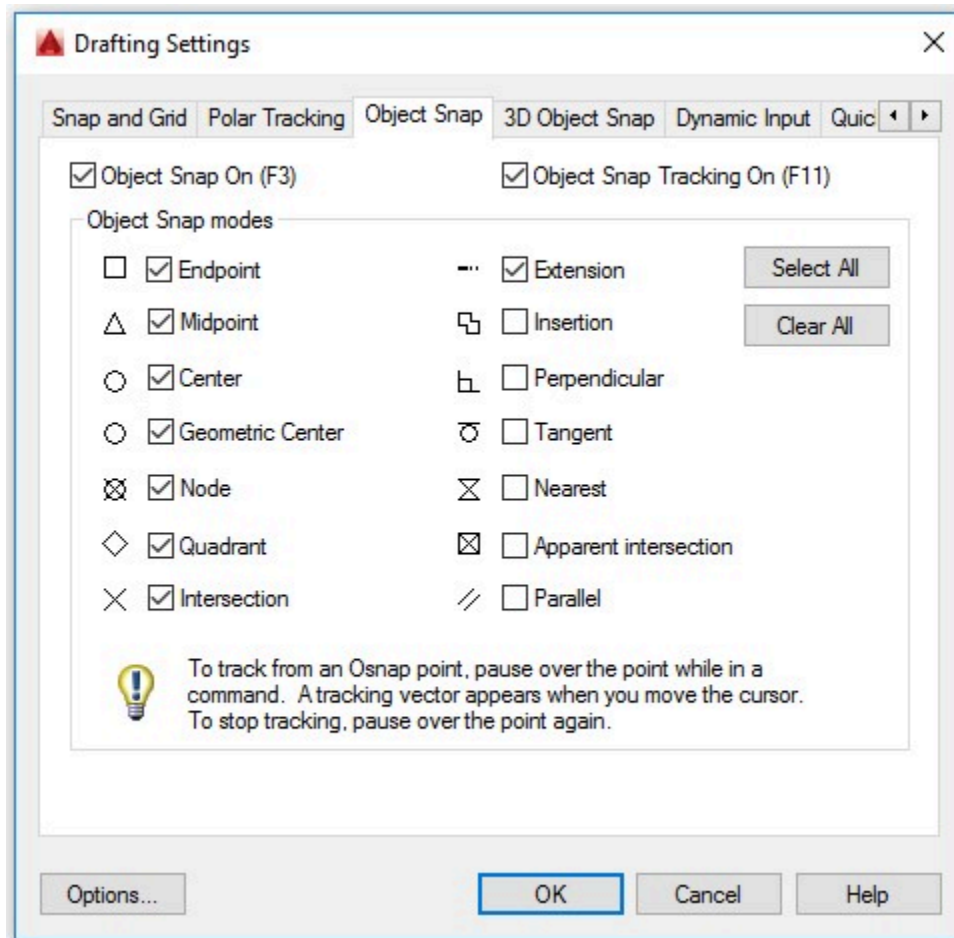

Figure Step 5
Step 4 will open the Drafting Settings dialogue box. Enable the Object Snap tab. In the Object Snap modes area, enable the modes to match the figure. Click OK to close the dialogue box. (Figure Step 5)